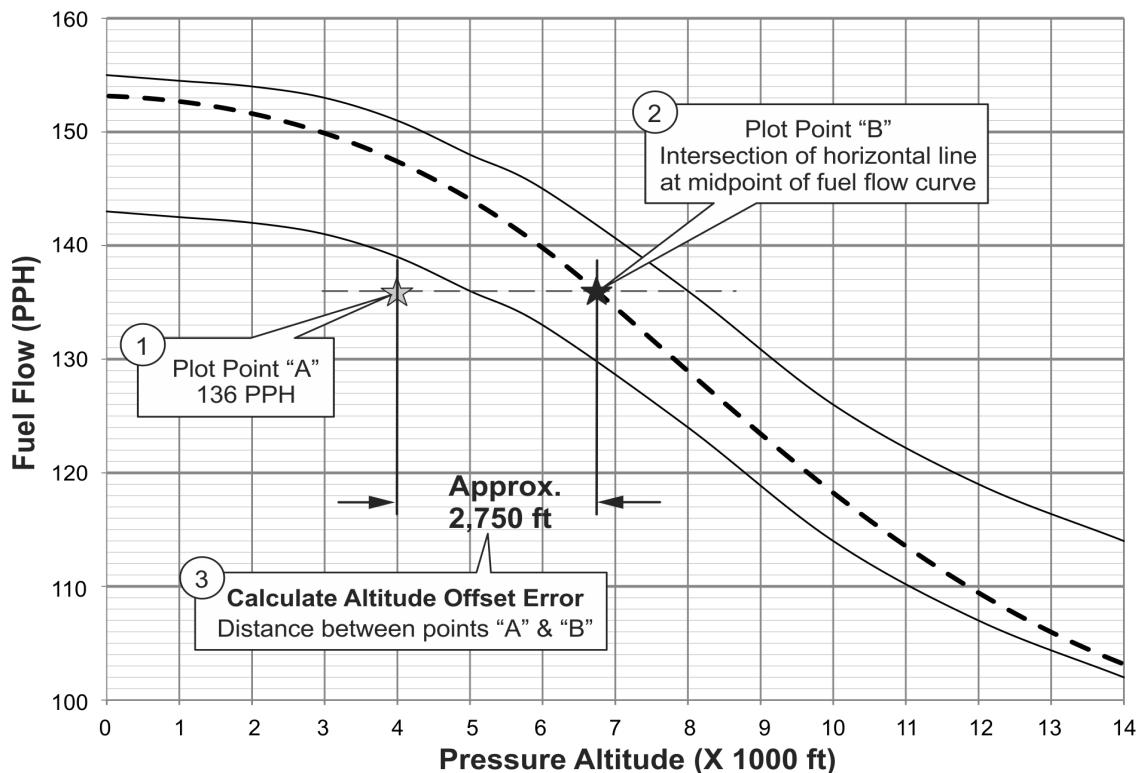

Figure 3. Calculating Altitude Offset Error (example only)
- b. For all IO550-D, E, F, & L Altitude Leaning Schedules refer to Figure 4. Adjustment of the aneroid adjustment screw clockwise will decrease the altitude (moves horizontally to the left on the chart) while counterclockwise adjustment will increase the altitude (moves horizontally to the right on the chart) at a given pressure altitude. Adjustments made to the adjustable orifice (see Figure 8) will correct the chart fuel flow output vertically (see Figure 3).
- Plot your initial reference as Point A (Pressure Altitude 4000 ft, Fuel Flow 136 PPH, see Figure 3, bullet point 1).
- Draw a single horizontal line directly through Point “A” and both fuel flow curves (see Figure 3, bullet point 2). Plot the intersection of the horizontal line at the midpoint of the fuel flow curve as the new reference coordinate, Point “B”).